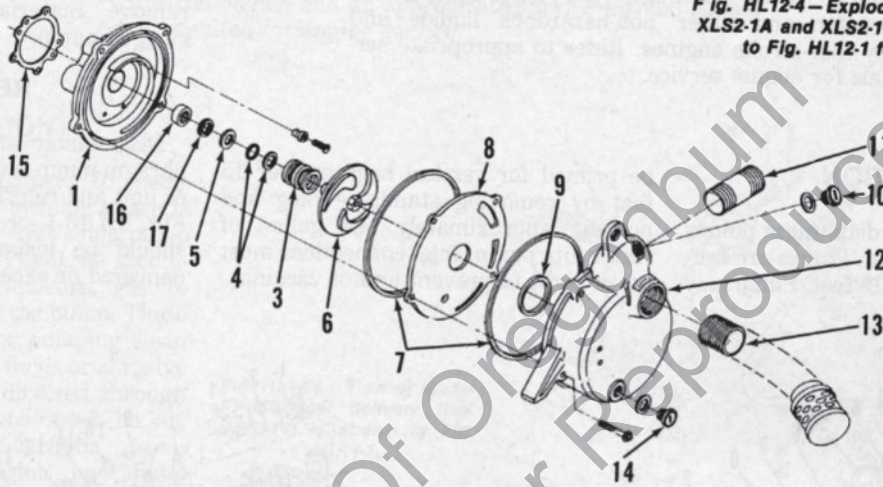

Fig. HL12-3—Exploded view of Model XLS1 1/2-4 and XLS1 1/2-4A centrifugal pumps.
DISASSEMBLY AND REASSEMBLY. Disassembly and reassembly of pump is evident after inspection of unit and referral to exploded view in Fig. HL12-1, HL12-2, HL12-3 or HL12-4. Care should be taken not to damage gaskets during disassembly. Impeller must be turned counterclockwise for removal. Unscrew impeller by placing wrench on hex end of impeller and striking wrench sharply with a hammer. Take care not to damage or lose shims or seals. On Models XLS1½-4 and XLS1½-4A, impeller housing (1—Fig. HL12-3) must be removed from engine to inspect and renew seal (17) and bearing (16).